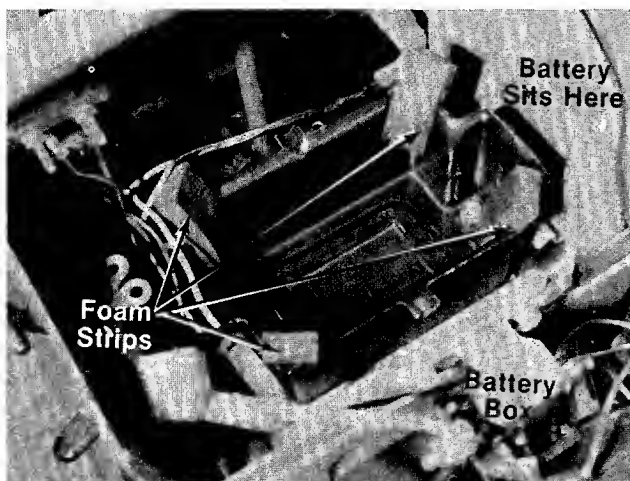

FIGURE 8.
- Open the hood of the lawn tractor. Figure 8 shows the battery box in which the battery will be mounted.
- Peel the paper off the foam strips to expose the adhesive backing. Press foam strips firmly into the corners of the battery box. See figure 8.